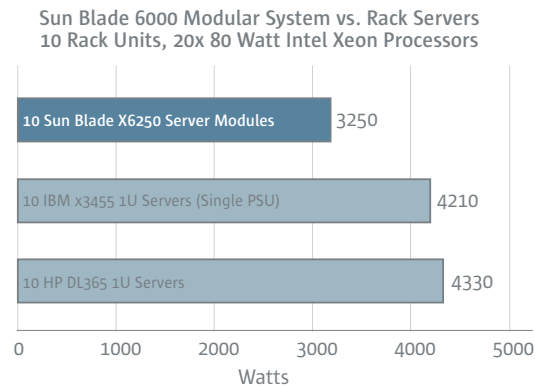

Figure 3. A similar calculation for 80 Watt Intel Xeon processors shows power savings of up to 1080 Watts using the Sun Blade 6000 Modular System.
- The Sun Blade Modular System configured with 10 Sun Blade X6250 Server Modules populated with two 80 Watt Intel Xeon processors per module (such as dual-core 3.0 GHz Intel Xeon5160 processors) saves 1080 Watts over equivalent HP DL360 G5 servers and 960 Watts over single PSU-equipped IBM x3550 servers (Figure 3). The HP and IBM servers were also equipped with Intel Xeon processors having the same power consumption rating.